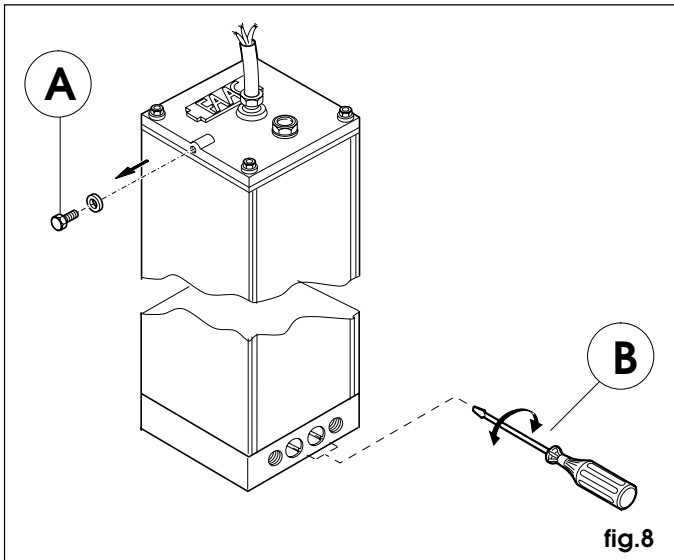

fig. 8
- 4) Remove and store the breather screw as shown in fig.8 ref.A.
To set the hydraulic system controlling transmitted power, turn the two by-pass screws (fig.8 ref.B).